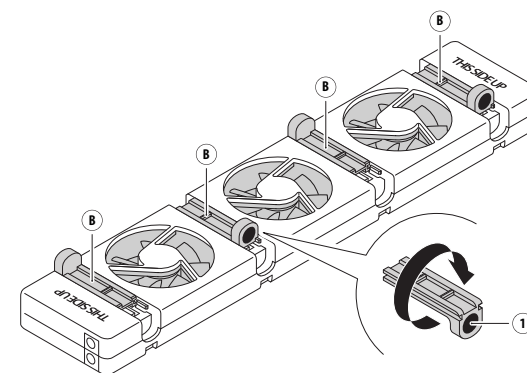

Fig. 3 – Repositioning the adjustable magnets in the SpeedComfort (A)..
1. Turn the **adjustable magnets** (B) so that the magnet (1) is positioned at the top (see Fig. 3). Make sure there are two magnets on each side. Remove the **dummy block** (K) located opposite the adjustable magnets inside the housing. Dispose of the block as plastic waste.
2. Adjust the adjustable **magnets** (B) to the correct width.
3. Follow the same steps 1 and 2 as for the wide radiator. Use the adjustable magnets (B) to secure the **SpeedComfort** (A) between the panels (see Fig. 3 and 4). You can align the SpeedComfort with the front edge of the radiator.